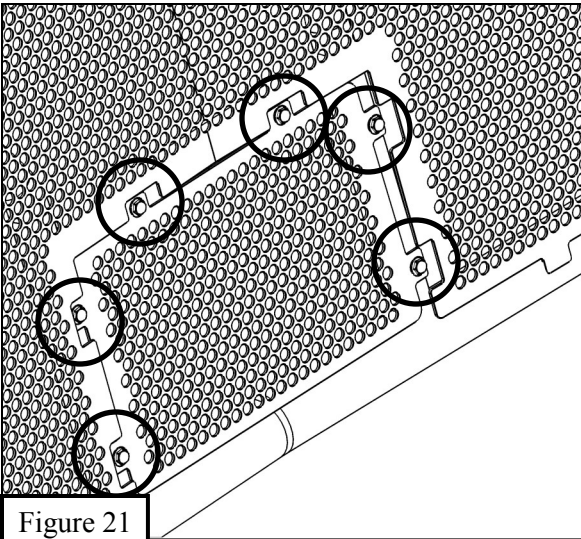

Figure 21
11. For models with front cameras, remove the screen in the Grille Guard as shown in **Figure 21**.